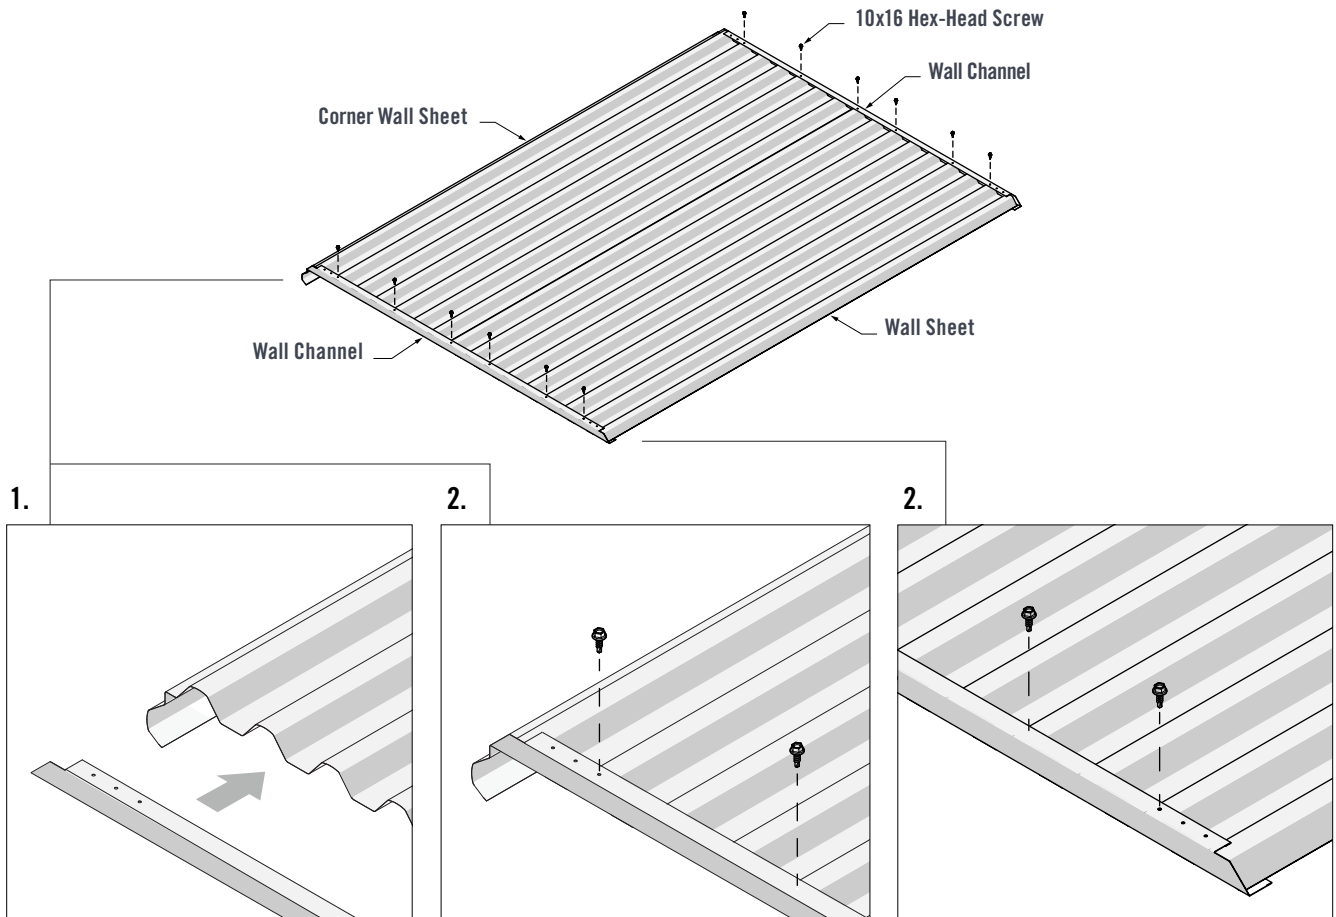

FIGURE 3.2
2. Fasten through the third pilot hole of both Wall Channel ends and into the Wall Sheet crests. Fasten through the Wall Channels and into every third Wall Sheet crest using four 10x16 Hex-Head Screws in each Wall Channel (Figure 3.2).